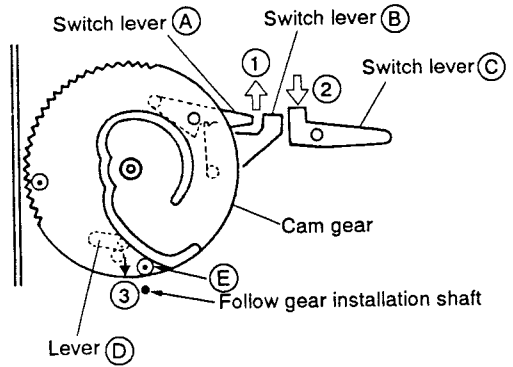

Fig. 11
② Move switch levers A and B (Fig. 11) in the direction of arrow ① (SW is ON), switch lever C in the direction of arrow ② and lever D in the direction of arrow ③
② Install the cam gear when the cam gear comes to the position as shown in Fig. 11.